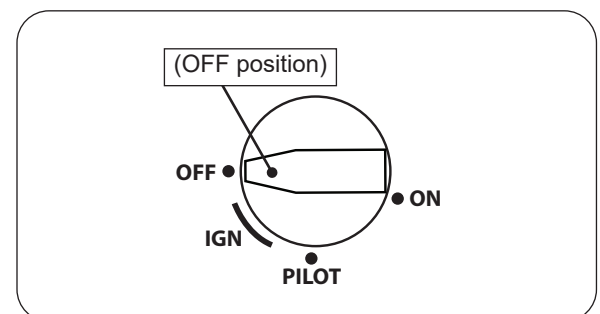

Fig. 41-2 Pilot shut down
2. Locate the valve on the side of the unit. Push in the ignition knob slightly and turn clockwise to **OFF** (see Fig. 41-2).
Push in the ignition knob slightly and turn clockwise to **OFF**. Do not force. See Fig. 41-2.